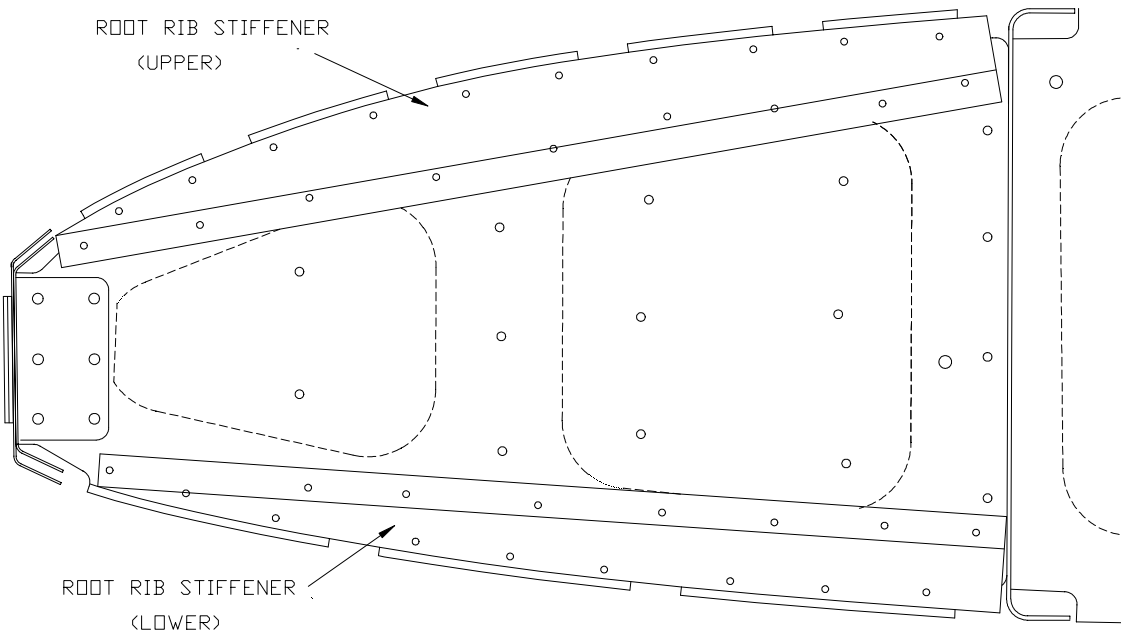

Figure 8.13.4
- 7) Drill #40 holes into the Leading Edge Root Rib and Doubler as in Figure 8.13.4.